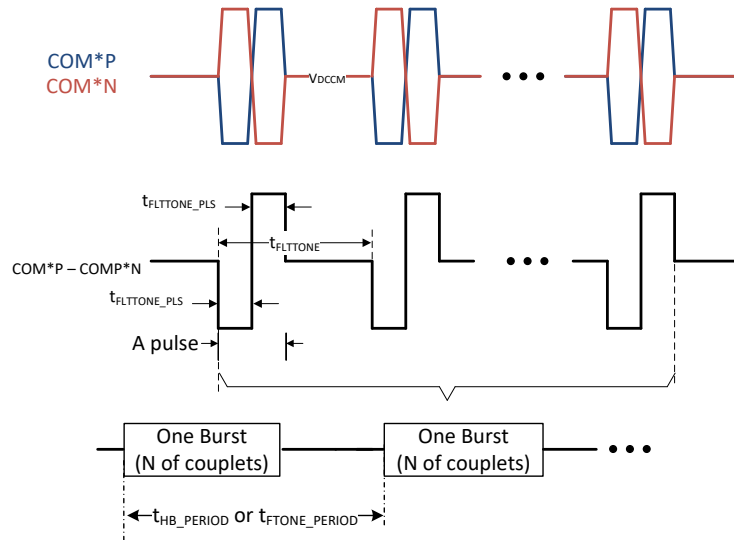
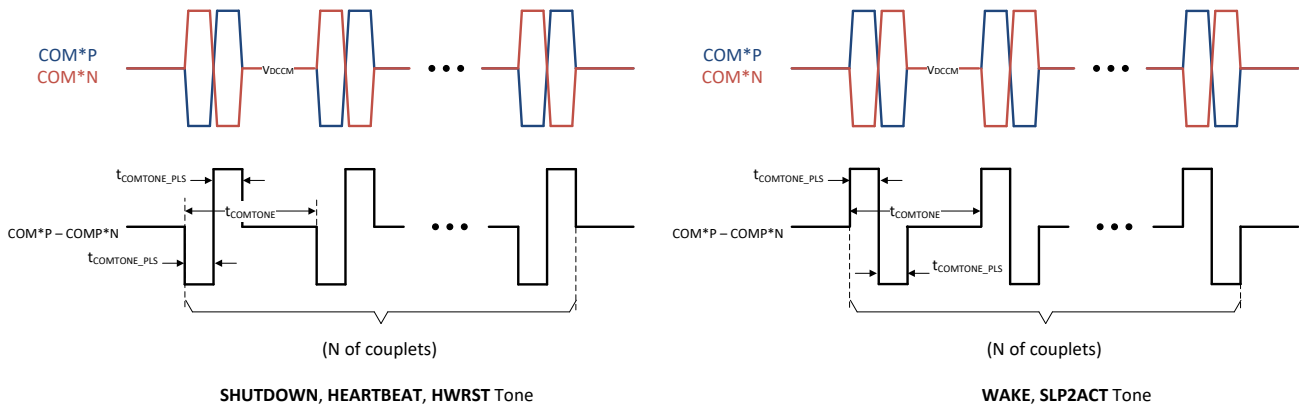

图 7-21. FAULT Tone and HEARTBEAT Tone Definition
图 7-22. SHUTDOWN, HEARTBEAT, HWRST, SLP2ACT Tone Definition
Other than data, certain information is transmitted using tone: signals to change power state of stack device (SLP2ACT tone, WAKE tone, SHUTDOWN tone, HWRST tone), signals related to faults (FAULT tone and HEARTBEAT tone). The definition of each tone is defined in 图 7-22 and 图 7-21.
表 7-9. Auto-Addressing with Figure 7-22(a), assume all devices are in SHUTDOWN
**表 7-9. Auto-Addressing with Figure 7-22(a), assume all devices are in SHUTDOWN (continued)**
**表 7-10. Auto-Addressing Figure 7-22(b), assume all devices are in SHUTDOWN**
**表 7-10. Auto-Addressing Figure 7-22(b), assume all devices are in SHUTDOWN (continued)**